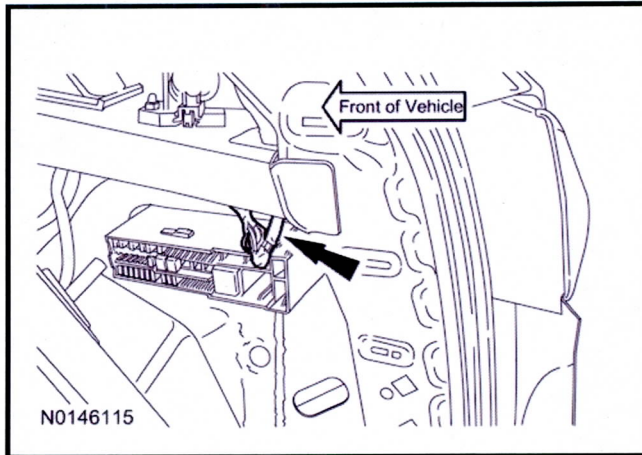

Figure 4 - Article 13-1-5
11. Locate right interior vehicle harness. (Figure 4)